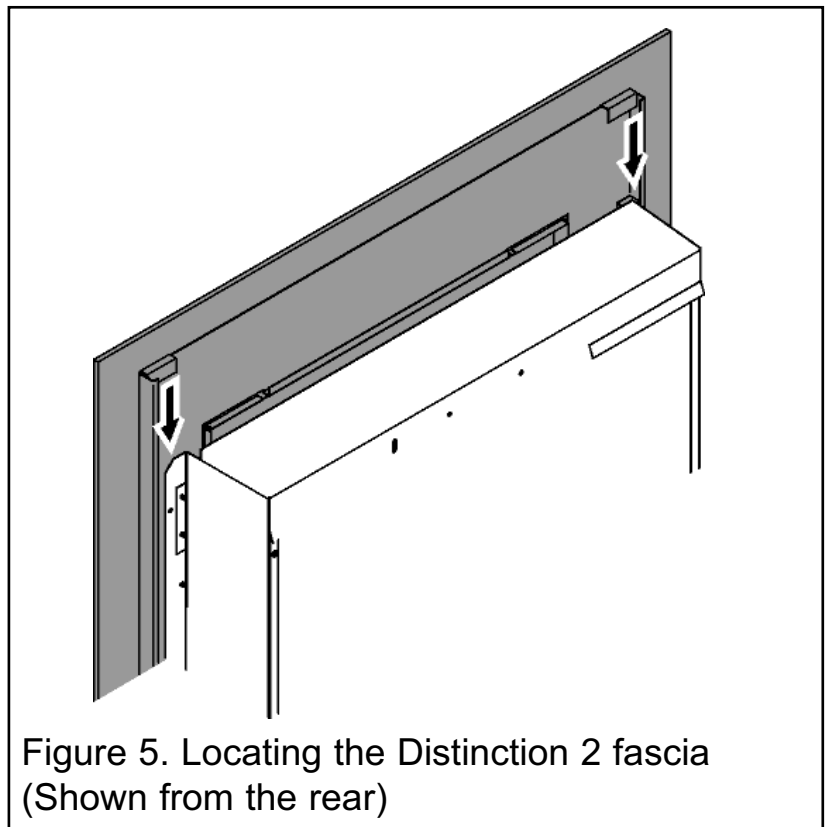

Figure 5. Locating the Distinction 2 fascia (Shown from the rear)
1. The rear of the fascia has two vertical metal strips. The tops of these strips have a 'U' shape. Hang the fascia to the top side flanges of the heater using these 'U' channels (See figure 5).